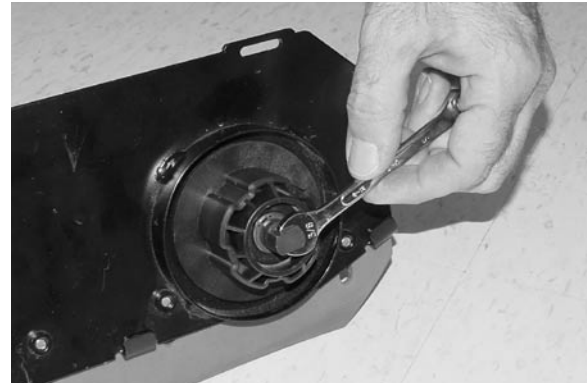

FIG. 26
5. When adjusting front brush, turn shaft clockwise to lower brush end. If adjusting rear brush, turn shaft counter-clockwise to lower brush end. Retighten Allen screw after adjusting (Figure 26).